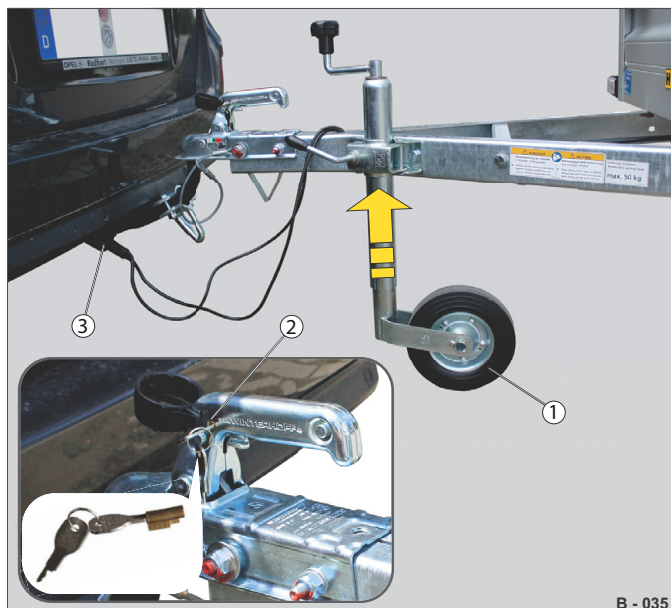

Fig. 11 Example: Lock handle
- Secure the handle with a plug lock (on unbraked) or shackle lock (on braked) trailer to prevent the barrier from being opened without authorisation (Fig. 11 /2). The handle is blocked.
- Insert the electric plug (Fig. 11 /3) into the car socket - see "Plug connections" on page 135.
- If applicable, raise the support / support wheel (Fig. 11 /1) - see "Support devices" on page 76.